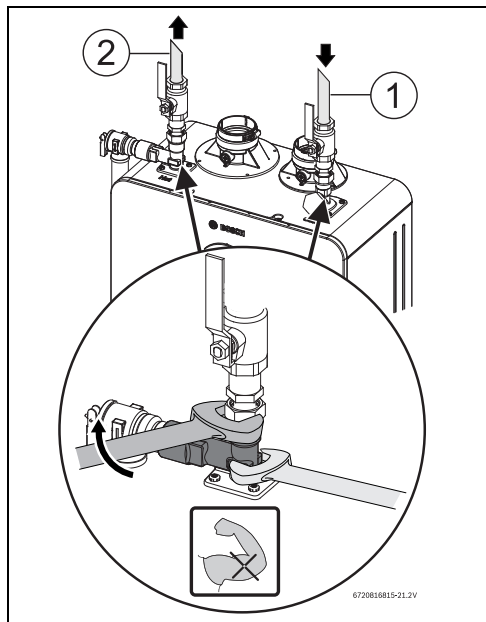

Fig. 28
- ▶ Tighten all water connections with the support of a wrench, see Fig. 28.